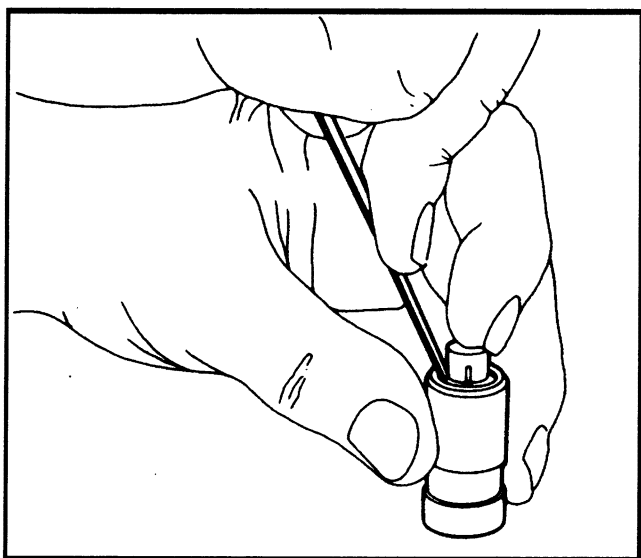

FIGURE 15. INSTALL THE CHECK BALL ASSEMBLY
1. Assemble the check ball assembly. Put the check ball on the small hole in the bottom of the plunger. Install the check ball spring in the seat of the check ball retainer. Put the check ball retainer over the check ball so that the check ball spring is on the check ball. Carefully press the check ball retainer into position in the plunger. See FIGURE 15.